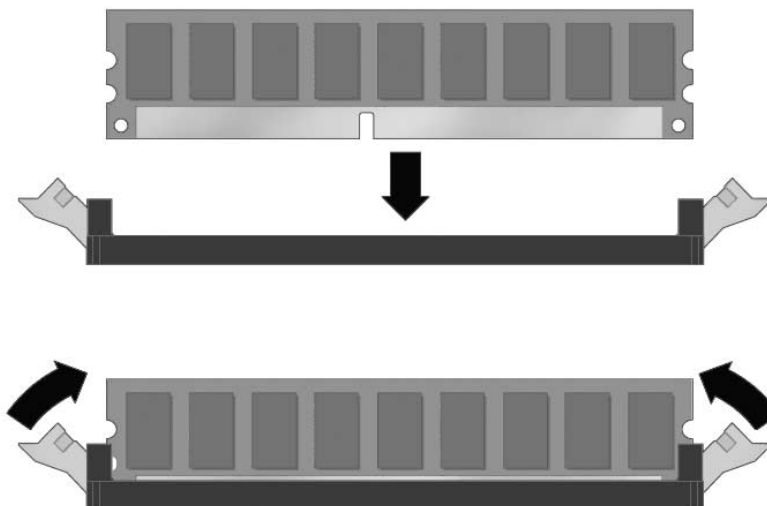

FIGURE 2-2 Installing a DIMM
5. Holding the DIMM upright to the board, insert the bottom edge of the DIMM into the bottom of the slot’s hinge-style connector (FIGURE 2-2).
6. Press the top edge of the DIMM toward the board until the retainer clips click into place in the notches on the DIMM sides (FIGURE 2-2).